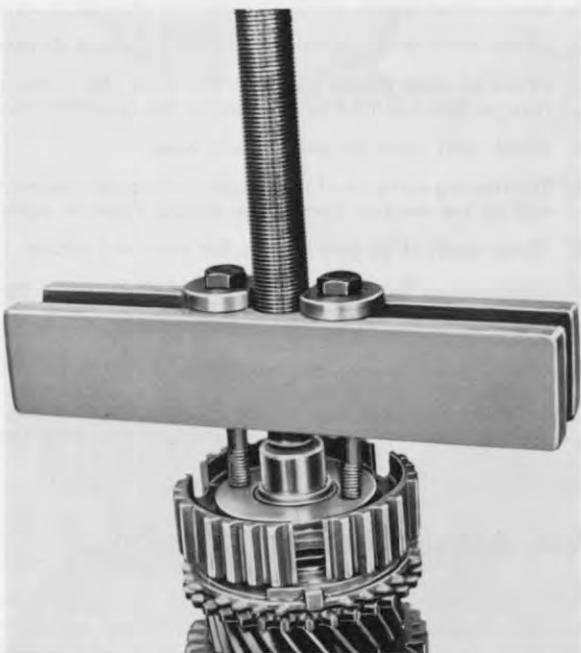

Fig. 22
4. Pull off synchro body 4th and 5th gear (405) with 2 screws M 8 and conventional pulling bridge (Fig. 22). Take off synchro ring (402), 5th gear (407) and needle cage (408).